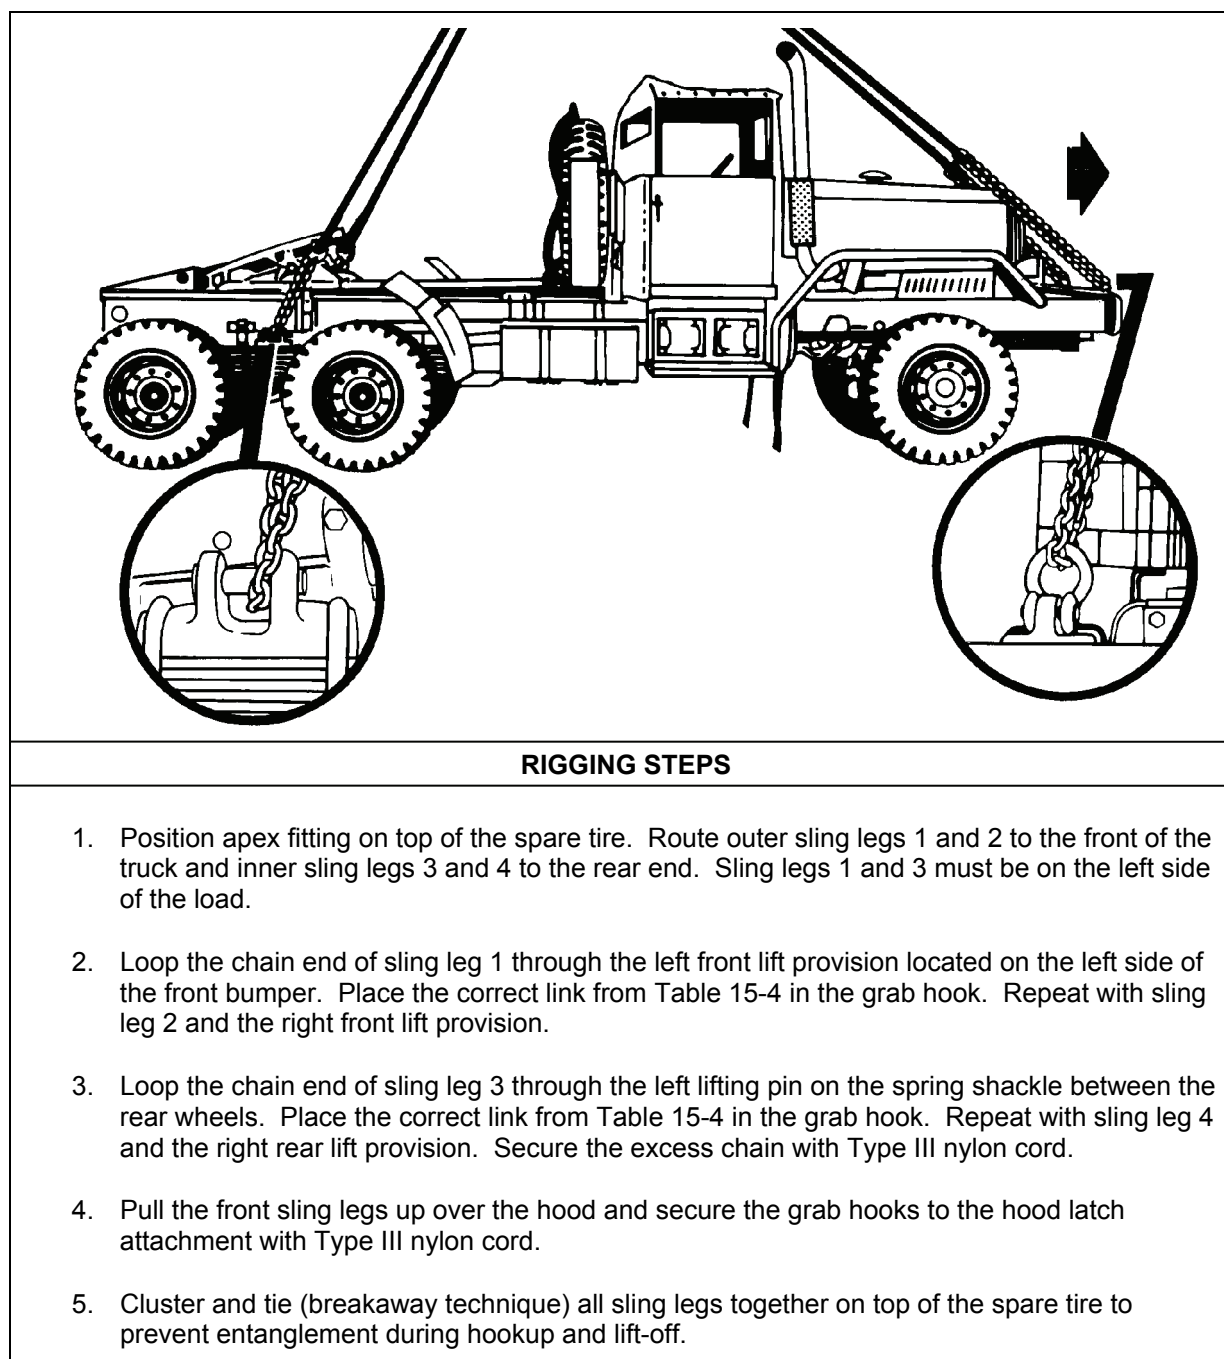

Figure 15-4. M524A2 or M818 5-Ton Tractor with Winch
- **Rigging.** Rig the load according to the steps in Figure 15-4.